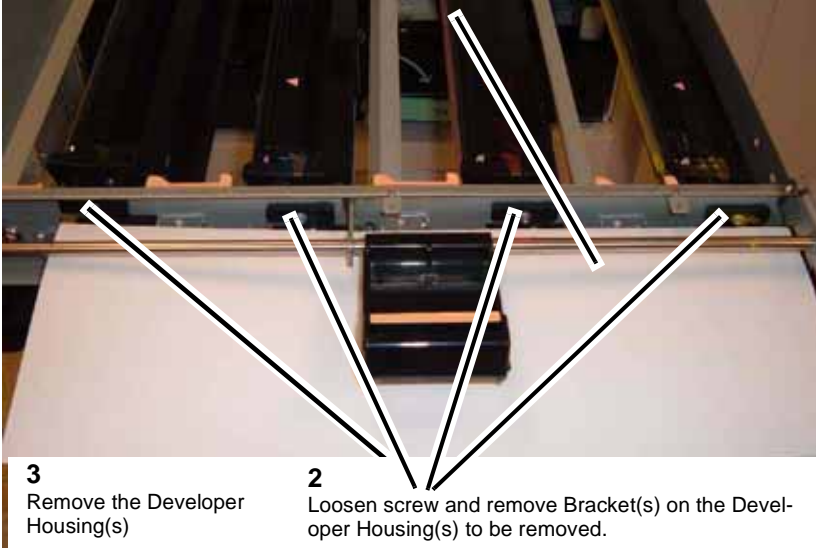

Figure 7 Removing the Developer Housing(s)
8. Remove the Developer Housing(s) (Figure 7).